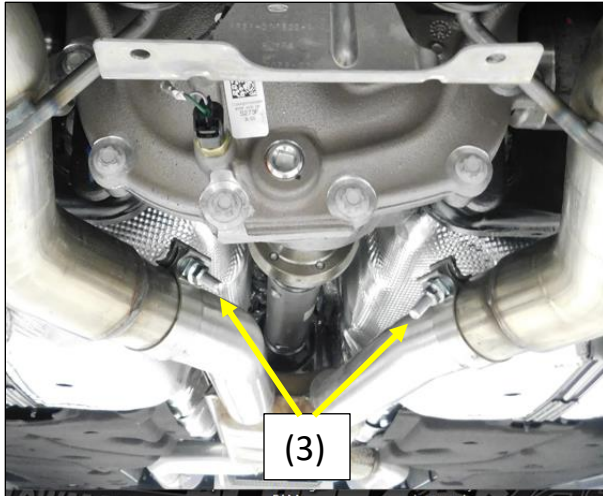

Figure 8
4. Install the supplied band clamp (3) on to the inlet of the Flowmaster Axle-Back muffler assembly with the bolt to the inside and nut facing down (**Fig. 8**).
7. Slip the muffler assembly over the OEM exhaust pipe approximately 3 inches and support the muffler. **Fig.8**